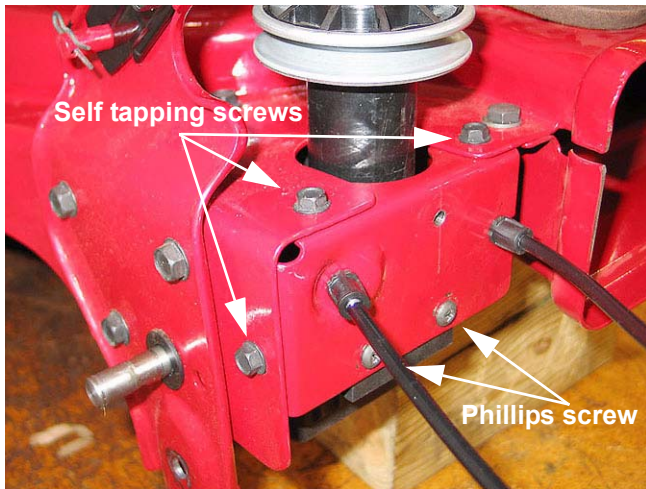

Figure 3.14
- 3.14. Remove the two phillips screws holding the transmission to the brace. See Figure 3.14.